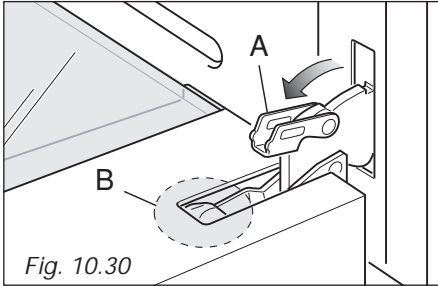
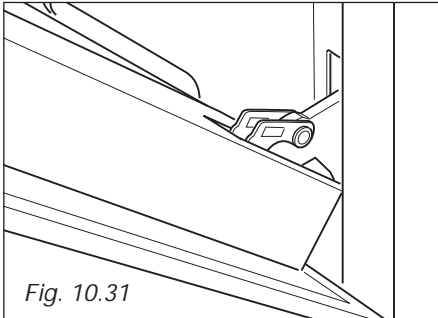

Fig. 10.30
Fig. 10.31
- Fully open the lever **A** on the left and right hinges. (fig. 10.30).
- Gently close the door (fig. 10.31) until the left and right hinges are hooked to part **B** of the door (fig. 10.30).
1. Make sure the door is locked open (see fig. 10.31).